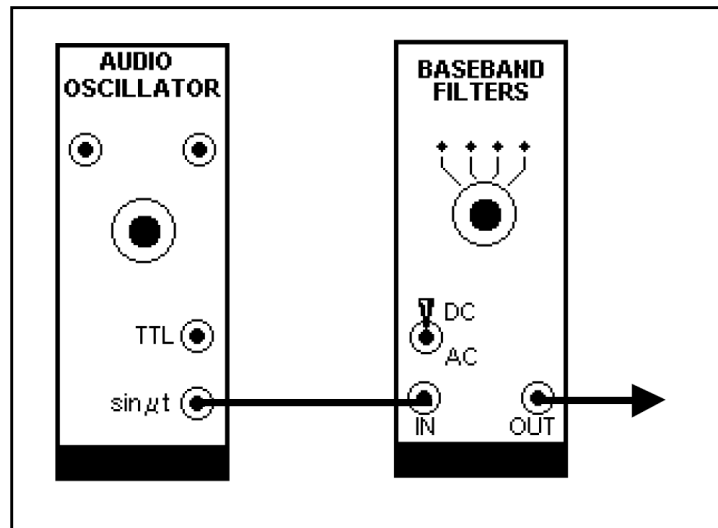

Figure 3: Task 3 — Channel sinusoidal response
1. Connect the BBCF input to a yellow output socket on the AUDIO OSCILLATOR (Figure 3). Select Channel 3. Starting at a low frequency, display the BBCF output and the input. Progressively increase the frequency over the available range and observe the effect on the amplitude of the output signal. Make a record of your findings in the form of a graph of amplitude vs frequency. Consider the possible advantage of using log scales. **[Marks: 11/2]**